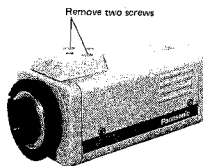

Fig. 2-1
- Remove two screws fixing camera mounting and remove camera mounting. (Fig. 2-1)